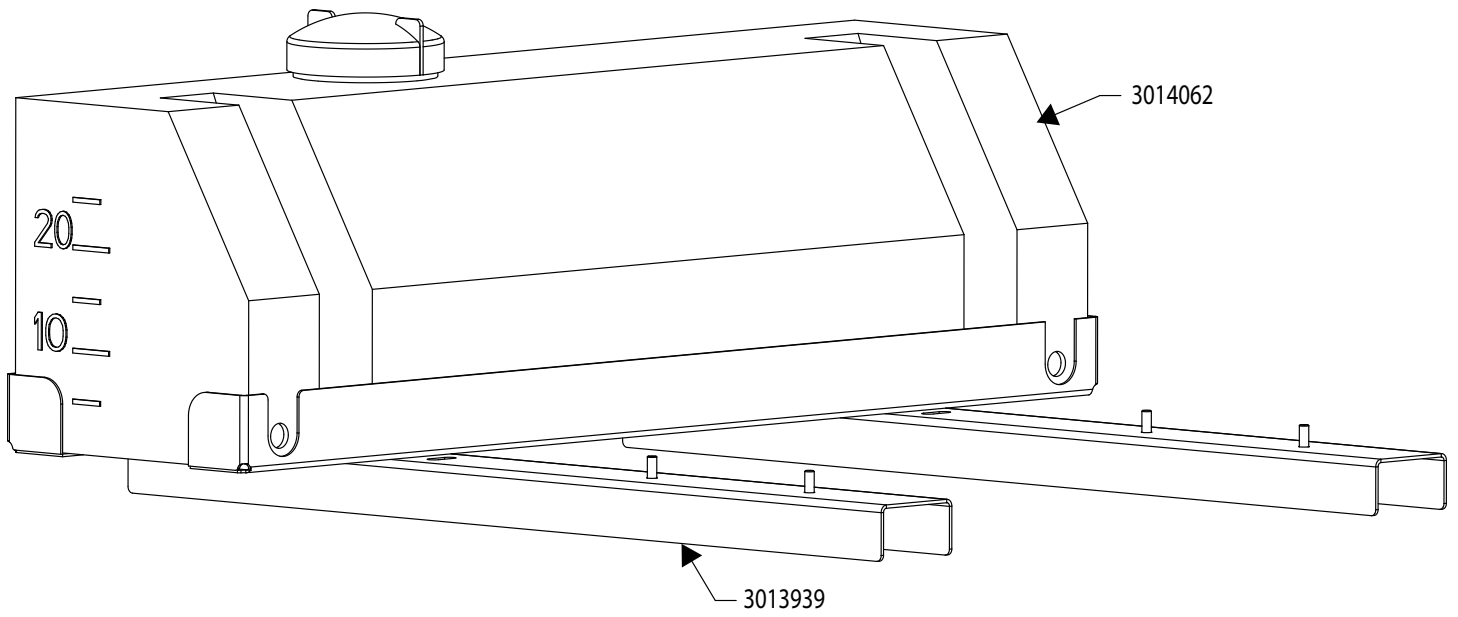

Fig. 1
1. Position Support (3013939) in truck's bed. Place 30 gal. Tank (#3014062) on support as show in Fig.1. Strap tank to support using straps 149650501.